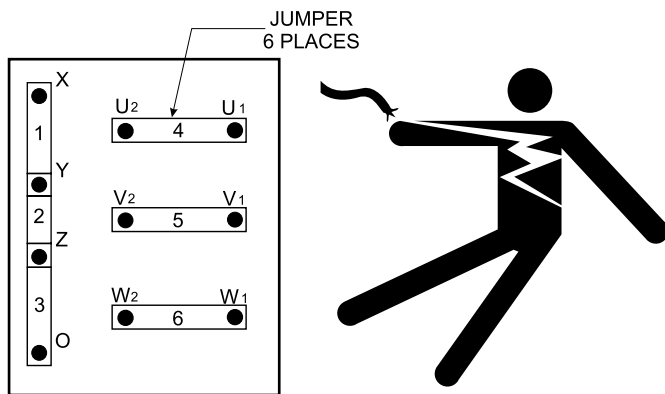

Figure 13. Voltage Change-Over Board
A wide range of voltages are available to supply voltage for many different applications. Voltages are selected by applying jumpers (6) to the **voltage change-over board** (Figure 13). To obtain some of the voltages as listed in Table 7 (see below) will require a fine adjustment using the **voltage regulator (VR) control knob** located on the control panel.
The **voltage change-over board** (Figure 13) is located on the control box, behind the generator control panel. This board has been provided for ease of voltage selection.